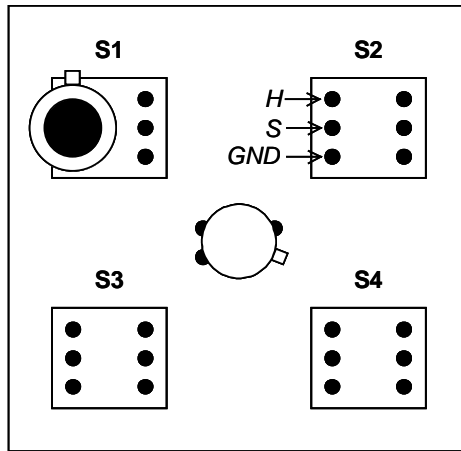

Figure 1. Placing the sensors on the chamber sockets
1. Connect the LM335 sensor in the 3-pin socket of the ISS interface board. The notch should point towards the right, as shown in Figure 1.
1. Connect the SB15 in the top-left socket of the ISS board, as shown in Figure 1.
3. Adjust the heater voltage between 0V and 0.8V by turning the pot on the corresponding limiter circuit on the bottom of the ISS board. This voltage can be measured on the top-left pin of each gas sensor socket (labeled H in Figure 1)